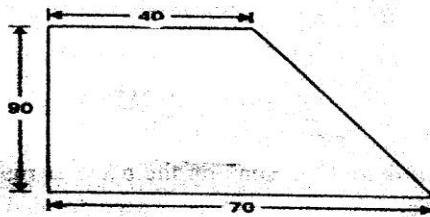

Figure-4
- (b) Figure-4 shows a plane area. Determine the product moment of inertia. All dimensions are in mm. (7)